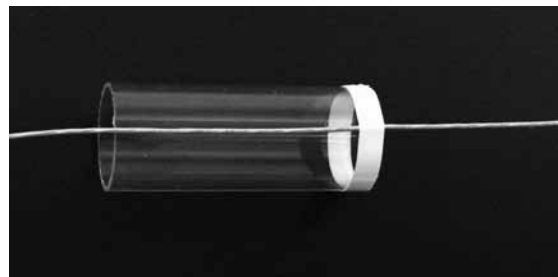

Figure 1-16 Start of transformer coil winding.
however, heavy themaleze magnetic wire will work. To build this primary coil, lay the wire across a 1 3/4- x 3/4-inch outside-diameter (OD) tube, with several inches of wire overhanging the edge (enough to reach the component to which the coil will be attached plus a little slack), and wrap the end of the tube with some tape to secure the wire in place (Fig. 1-16). If you don't have thin tape, just cut a strip to about 3/8-inch width, but it is important to use a thin strip of tape here because the bend of the wire should be close to the tube edge.